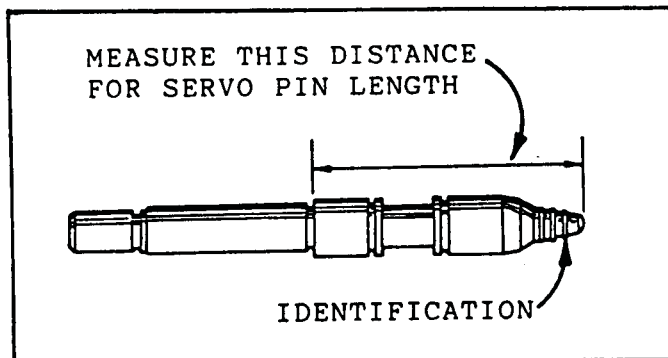

Figure 46
5. Length can be measured as shown in Figure 46.